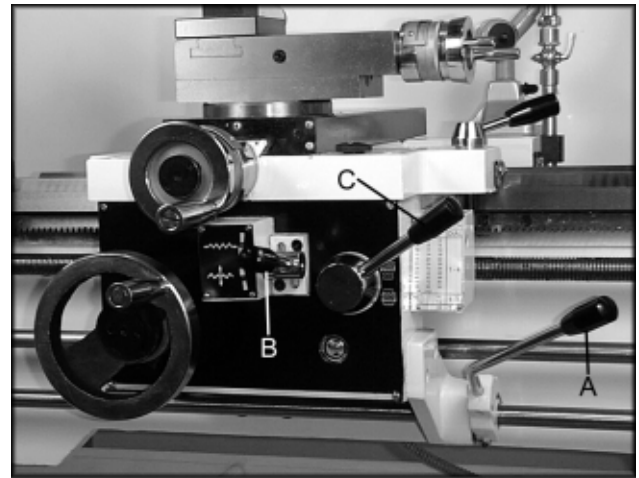
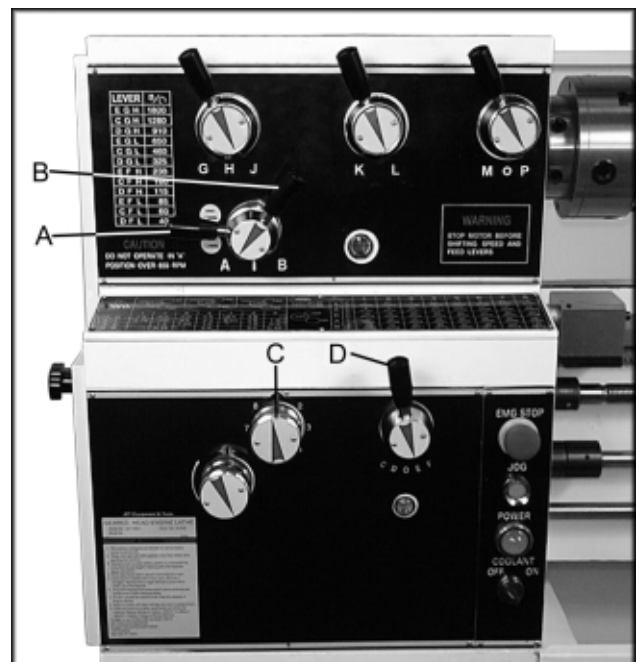

Fig. 19
Fig. 20
1. Move the forward/reverse selector (A, Fig. 19) up or down depending on desired direction.
2. Set selector levers (A, B, C, & D, Fig. 20) to desired rate.
**Note:** for feeding, lever (D) will be set at "F" or "D", depending on desired feed rate.
1. Push lever (B, Fig. 19) to the left and down to engage crossfeed.
1. Set forward/reverse lever (A, Fig. 19) up or down depending on the desired direction.
2. Set selector levers (A, B, C, and D, Fig. 20) to desired rate.
**Note:** for threading, lever (D) will be set at "C" or "E", depending on desired thread.
3. Push lever (B, Fig. 19) to the right.
4. Engage the half nut lever (C, Fig. 19).